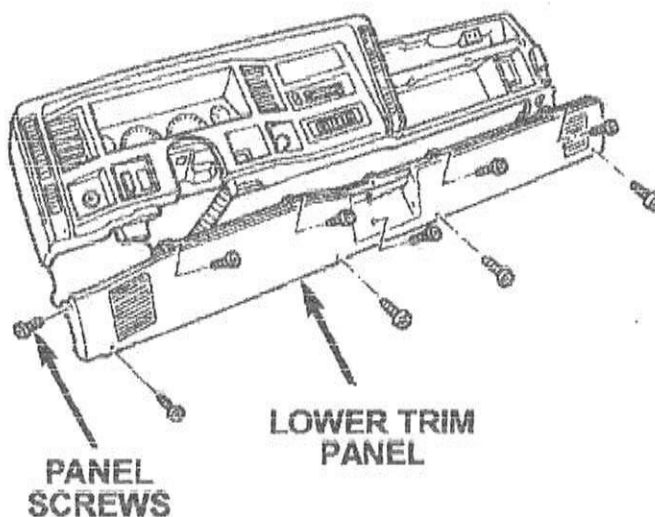

Figure 20
10. Remove the lower instrument panel trim panel (Figure 20).
40. Install the instrument panel lower trim panel (Figure 20).